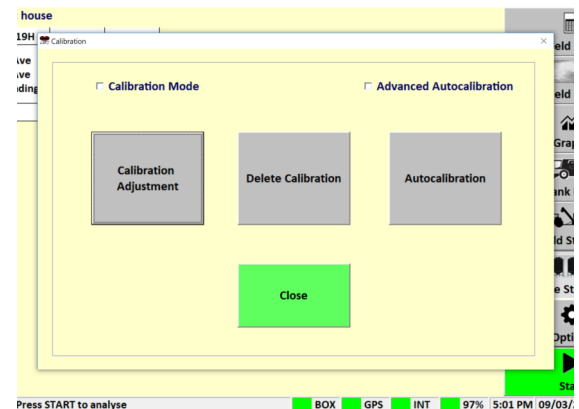

Figure 4.8. Calibration Menu.
2. Click on **Calibration Adjustment** menu. figure 4.8
2. Click on **Delete Calibration** figure 4.8